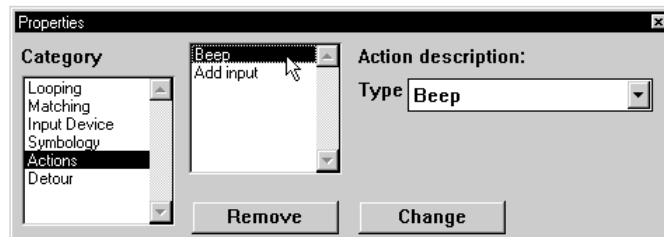

Figure 4-16 Beep Action Selected
18. Select **Beep** in the action list (Figure 4-16).